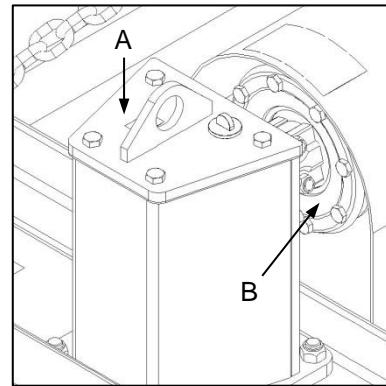

Fig. 5
- ✓ Discolouration or blistering of painted surfaces of the friction clutch housing (Fig. 5-B).
- ✓ The friction clutch housing feels significantly hotter than the surface of the gearbox casing (Fig. 5-A).
- ✓ Verkleuring of blaasvorming van geverfde oppervlakte van die wrywingkoppelaaromhulsel (Fig. 5-B).
- ✓ Die wrywingkoppelaaromhulsel voel beduidend warmer as die ratkasomhulsel (Fig. 5-A).